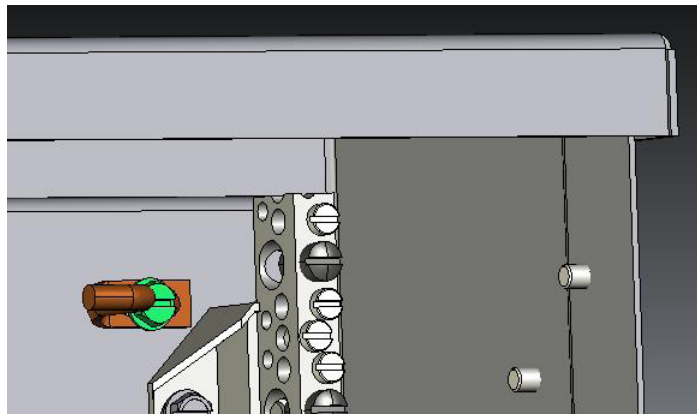

Figure 4. Bonding Strap Not Connected to the Neutral Bar.
Step 5: Ensure that the supplied bonding strap IS NOT connected to the neutral bar as shown in Figure 4.